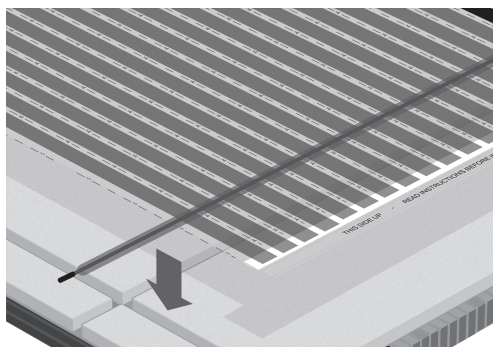

Fig.5. Cutout for floor sensor
6. Where the conduit pipes from the thermostat goes into the floor, make cutouts in the underlayment boards to make room for these (fig.5)